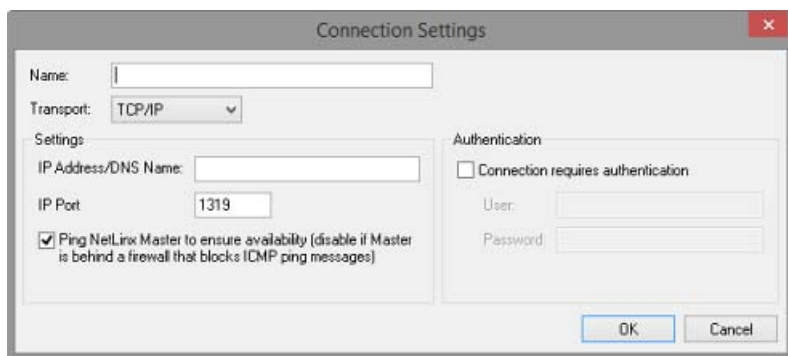

FIG. 411 Connection Settings dialog (TCP/IP Transport selected)
2. Click **New** to open the *Connection Settings* dialog (FIG. 411):